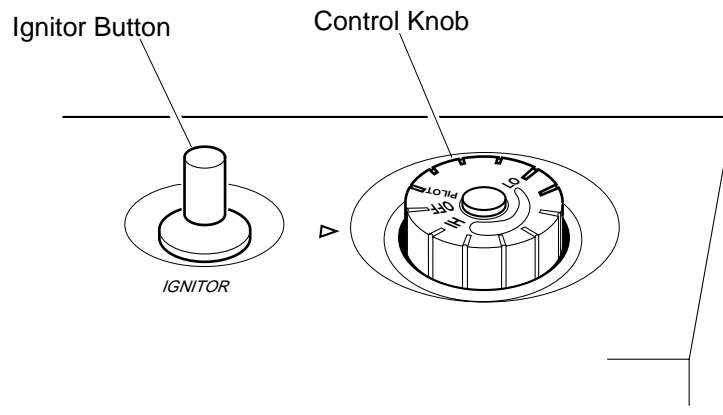

Figure 15 - Control Knob In The OFF Position
4. Wait five (5) minutes to clear out any gas. Then smell for gas, including near the floor. If you smell gas, **STOP!** Follow “B” in the safety information at the top of page 16. If you don’t smell gas, go to the next step.
5. Turn control knob counterclockwise  to the PILOT position. Press in control knob for five (5) seconds (see Figure 15, page 16).